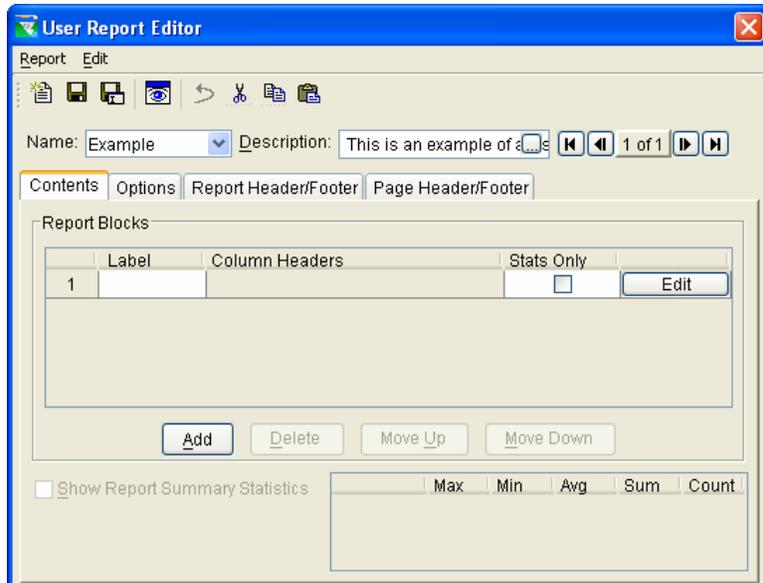
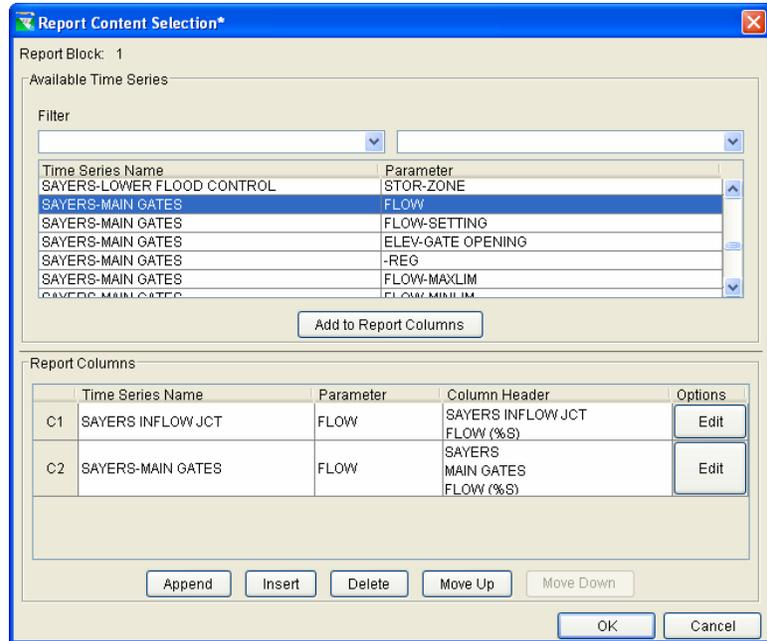

Figure 14.41 User Report Editor – After Creating a New Report Template
Figure 14.43 Report Content Selection After Time Series Added to Report Columns (and including %S)
3. After creating a new report template (Figure 14.41), you will notice four tabs in the **User Report Editor**: **Contents**, **Options**, **Report Header/Footer**, and **Page Header/Footer**.
Figure 14.43 is a display of the **Report Content Selection** dialog box after two time series have been added to the report block under construction.
Units for column headings can either be entered in manually or using the character string code **%S**. Simply typing this into the column header box (as shown in Figure 14.43) will result in the units automatically being displayed in the report. *Note that the code is case sensitive.*
Once all edits have been made to the column, select **OK** to save and return to the **Report Content Selection** dialog box (previously shown in Figure 14.43), or select **Cancel**, which will return you to the **Report Content Selection** dialog box and ignore all column edits you just made. In the **Report Content Selection** dialog box, select **OK** to save all edits and return to the **User Report Editor** (previously shown in Figure 14.41). Selecting **Cancel** will return you to the **User Report Editor**, but will not save any edits you made to the report block.